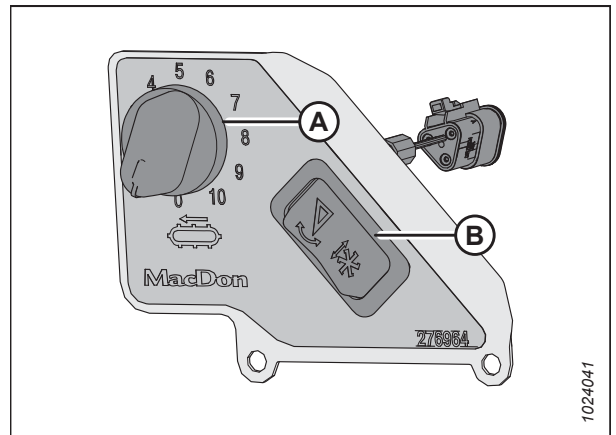

Figure 9.6: In-Cab Side Draper Speed Control
Switch (B) in Figure 9.6, page 599 allows the operator to switch between the header tilt and reel fore-aft controls..